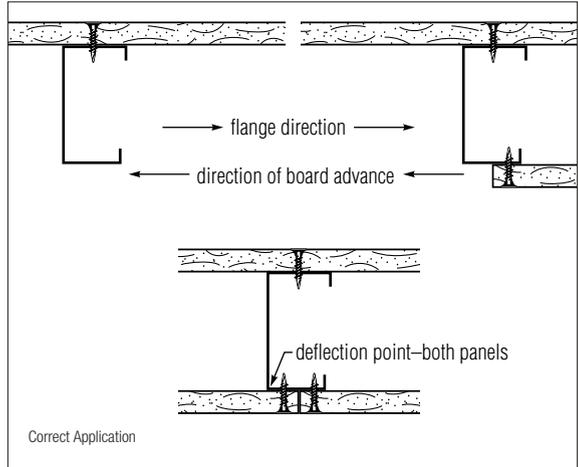

Fig. 13
**Prevention:** Install steel studs with all flanges pointed in the same direction. Then install panels by advancing in the direction opposite the flange direction (Fig. 13).